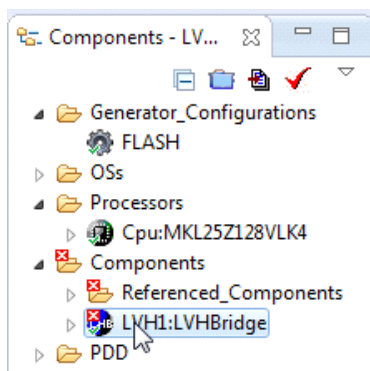

Figure 13. Select the component
2. Double click on the **LVHBridge** component in the Components window (see Figure 13) to show the configuration in the Component Inspector view.